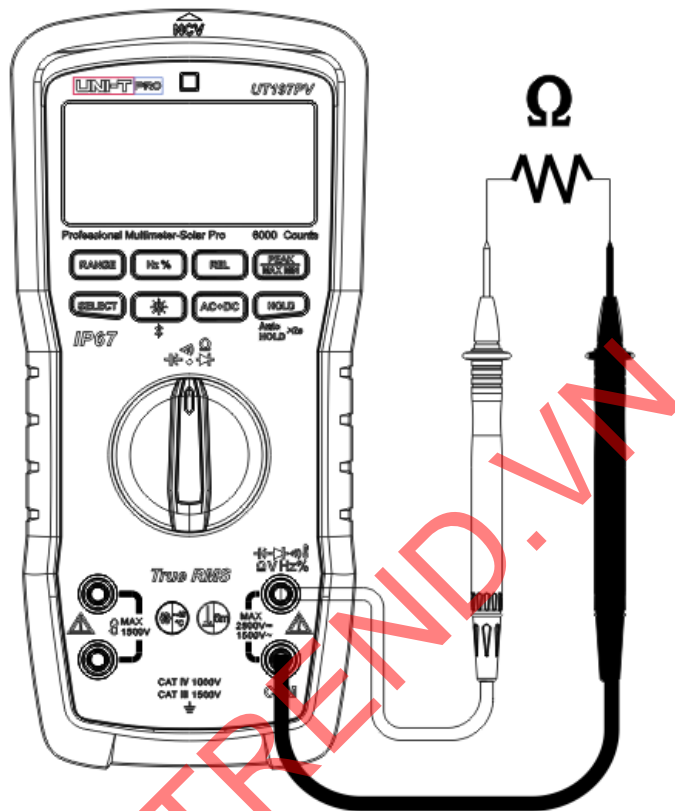

Figure 10
7. Resistance measurement (Figure 10)